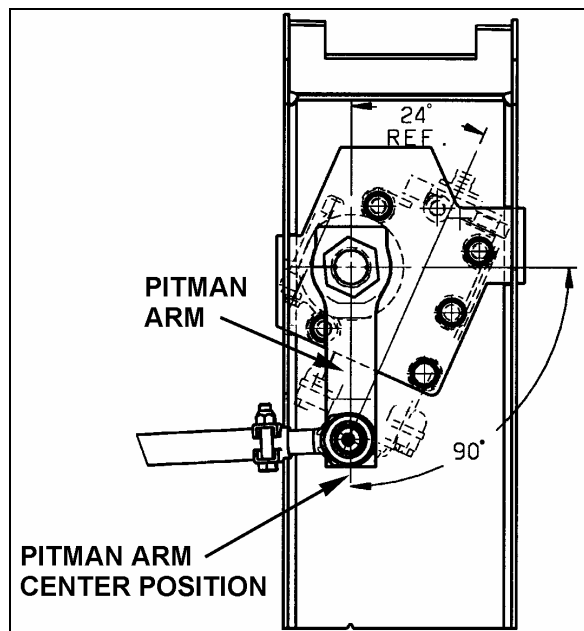

FIGURE 8: PITMAN ARM ALIGNMENT 14037
2. Afterwards, the pitman arm should be adjusted with reference marks aligned or to an angle of 90° in relation with the horizontal axis (Fig. 8).